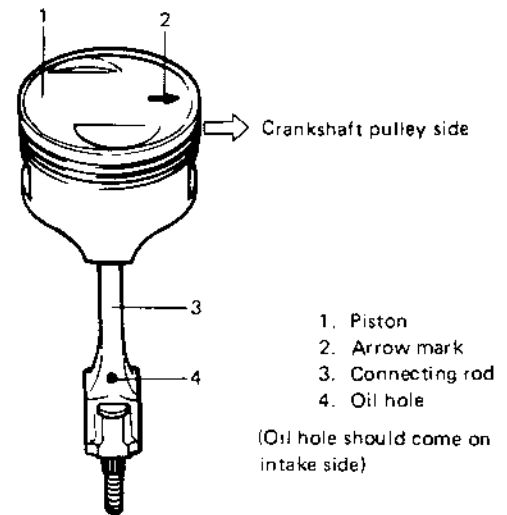

Fig. 3-6-12 Fitting connecting rod to piston
① After applying engine oil to piston pin holes in piston and connecting rod, fit connecting rod to piston as prescribed in Fig. 3-6-12.